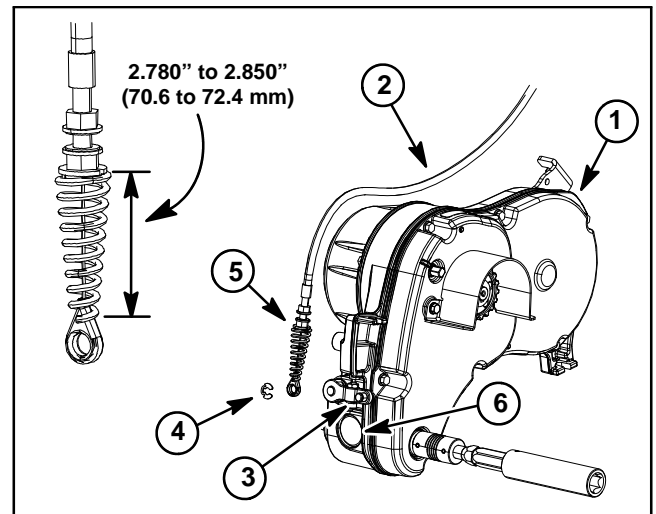

Figure 12
2. Remove reel clutch cable from transmission (Fig. 12):
2. Route reel clutch cable to transmission and install cable (Fig. 12):